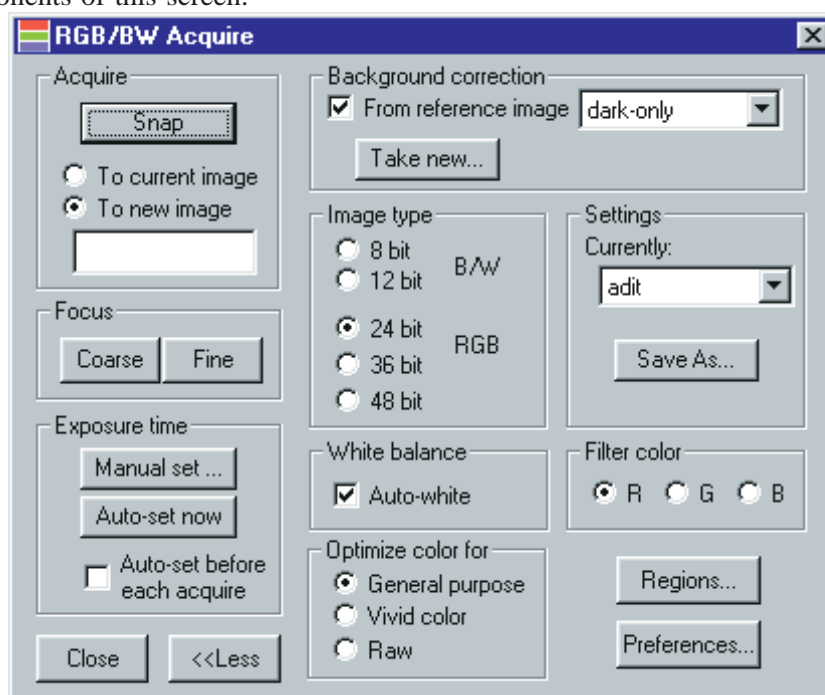

Figure 4-5 RGB/BW Acquire Screen
- **SHOW CAMERA CONTROLS**, displays the RGB/BW Acquire dialog box (Figure 4-5) that lets you specify or modify the acquired image.